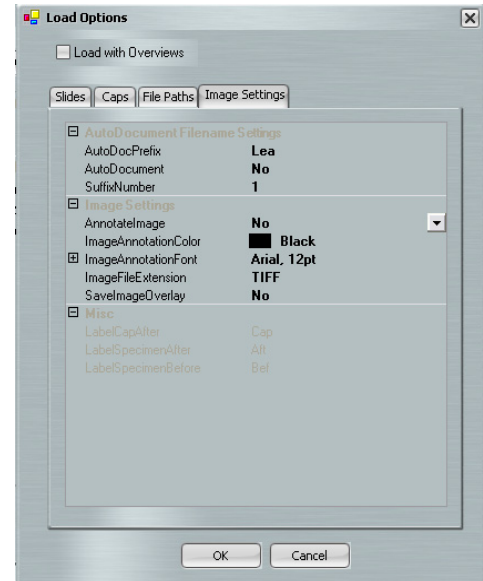

Figure 20 Image settings
2. Click the **Image Settings** tab (see **Figure 20 on page 34**).